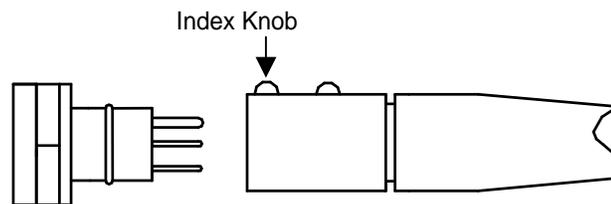

Figure 8
- Connect the interface cable to the electrical bulkhead connector on the side of the IPS4 end cap. Match the large pin on the bulkhead connector to the index knob on the interface cable (see Fig 8).